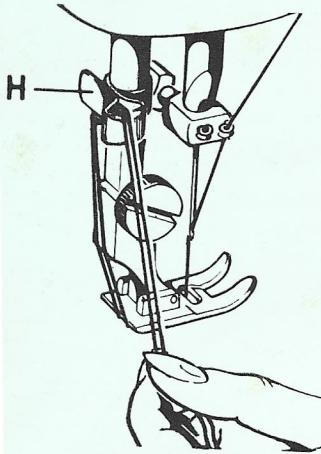

Fig. 17
- Draw fabric away from presser foot and draw threads, keeping them taut through thread-cutter « H » (Fig. 17).